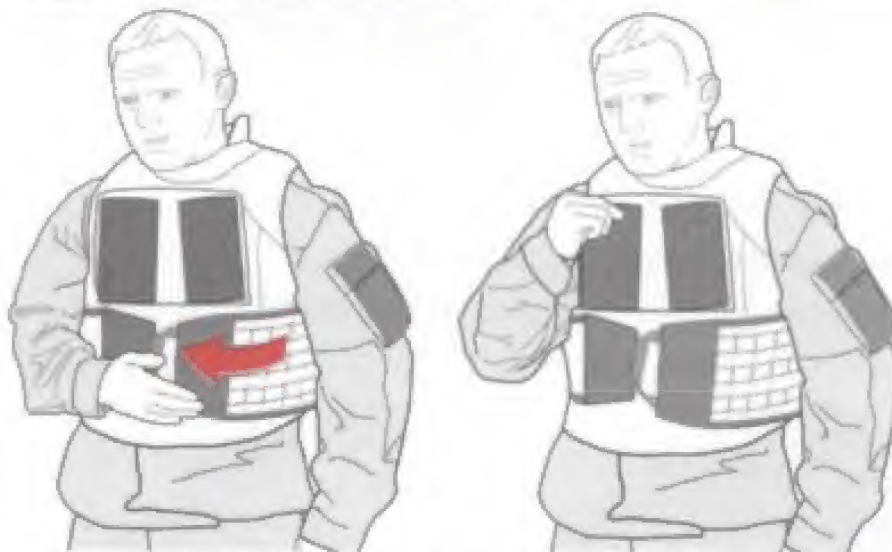

Fig. 16. Attaching the Side Plate Carriers.
7. Pull one of the Side Plate Carriers around the body and attach to same side hook and pile panel in front. Repeat with the other half as shown in Fig. 16.